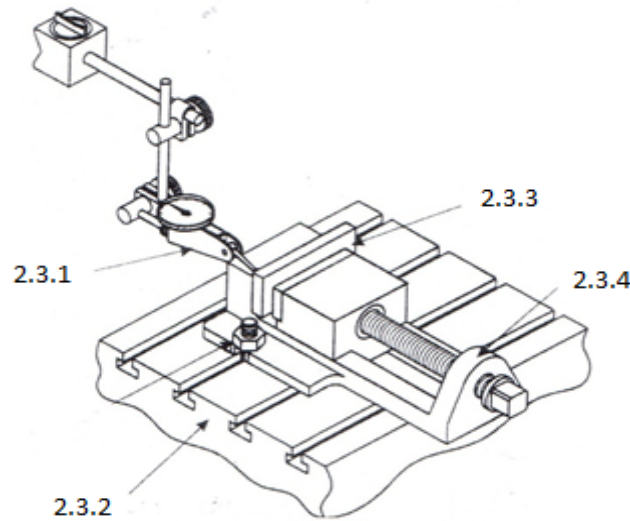

FIGURE 1
2.3 FIGURE 1 shows a task being performed on a milling machine. Identify the different components and write the names next to the question numbers (2.3.1–2.3.4) in the ANSWER BOOK.